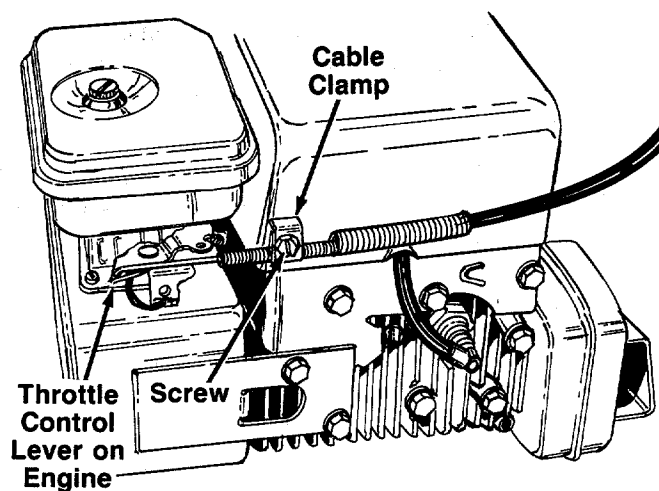

FIGURE 10.
16. Route the throttle control cable (attached to the upper handle) over the fuel tank mounting bracket. Hook the "Z" end of the throttle cable into the hole in the control lever on the front of the engine as shown in figure 10.
17. Remove the screw on the cable clamp shown in figure 10. Slip the control casing under the clamp. Replace the screw, but do not tighten (cable must still move freely beneath the clamp).
18. Push the throttle control lever on the engine to the full open position (as far toward the outside of the unit as it will go) as shown in figure 10. Tighten the screw to secure the cable in this position.